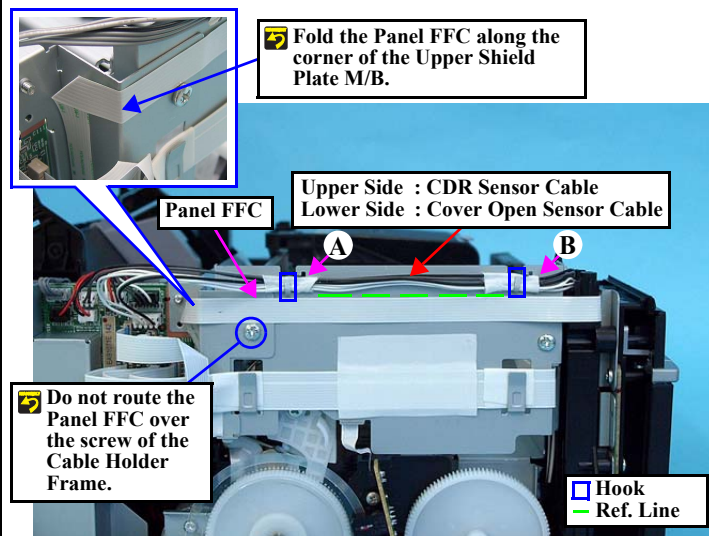

Figure 4-117. Routing the Cables
- When routing the FFCs and cables, follow the procedures below referring to Fig.4-117.